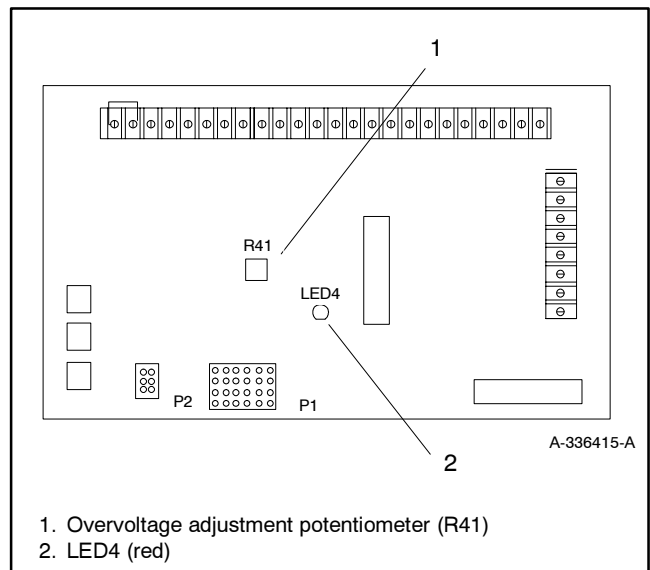

Figure 5-3 Overvoltage Shutdown Adjustment on Main Circuit Board
4. Wrap the shaft of an insulated-handle screwdriver with electrical tape. Turn the overvoltage potentiometer (R41) on the main circuit board fully clockwise. See Figure 5-3.
9. Use the wrapped screwdriver to slowly rotate the overvoltage adjustment potentiometer (R41) counterclockwise until red LED4 lights. See Figure 5-3. The generator set should shut down on overvoltage fault in approximately 2 seconds.